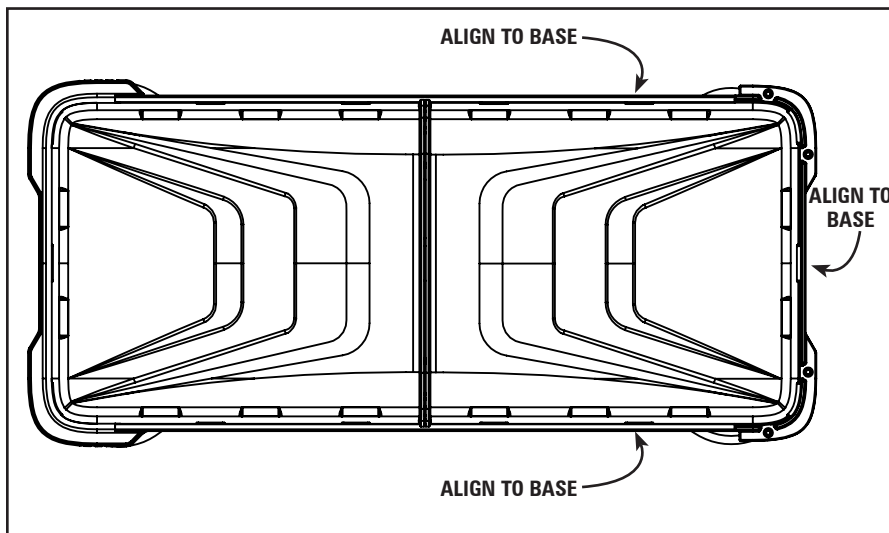

FIGURE 4a
4. Align lens strap to Lens as shown in figure 4a.